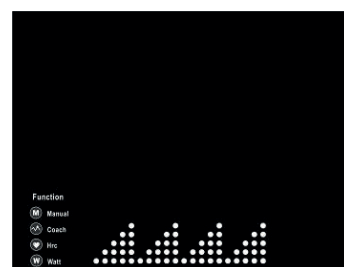

Fig. 23
9. Select WATT TRAINING to train in watt programme mode. There are 6 profiles to choose from (Fig. 23 is the 1st profile), select one with LEVEL. Press MODE and enter a target time (if required). Then press START to begin training. With LEVEL you can change the WATT value to your own preference, the resistance adjusts according to the watt setting. Press the STOP button or stop the training after reaching the target time and then press RESET to return to the start page.